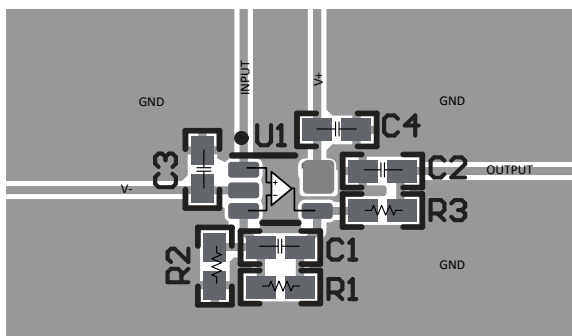
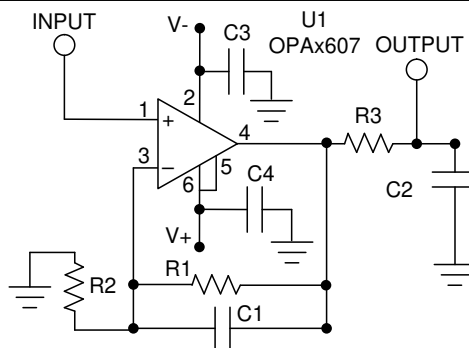

图 11-1. Operational Amplifier Board Layout for a Noninverting Configuration
图 11-2. Layout Example Schematic
- Place the external components as close to the device as possible. Keeping  $R_F$  and  $R_G$  close to the inverting input minimizes parasitic capacitance; see 图 11-1 and 图 11-2.